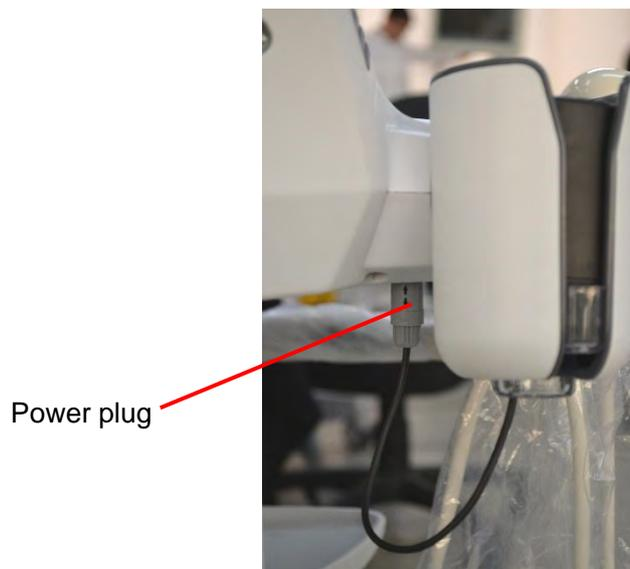

Fig.4-11
2) Place both the cup and gel warmer in the coupling gel heater slot on the left side of the system console (see Fig. 3-1 for the position of the coupling gel heater slot). Insert the plug of the cable into the power socket under the console so that the direction label on the power plug points outwards. See Fig. 4-11.